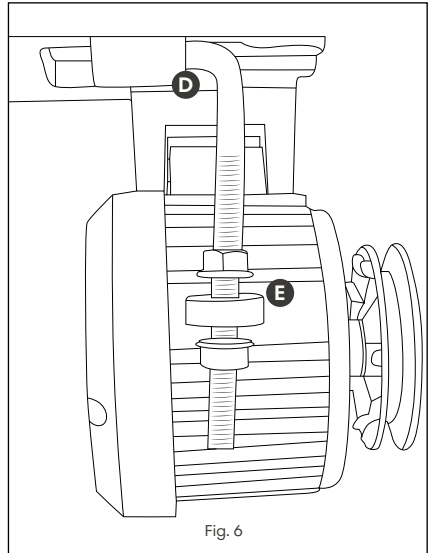

Fig. 6
- Tighten both locking nuts to adjust the motor to the required belt size. These locking nuts allow for fine-tuning of motor height and swing (Fig. 6).